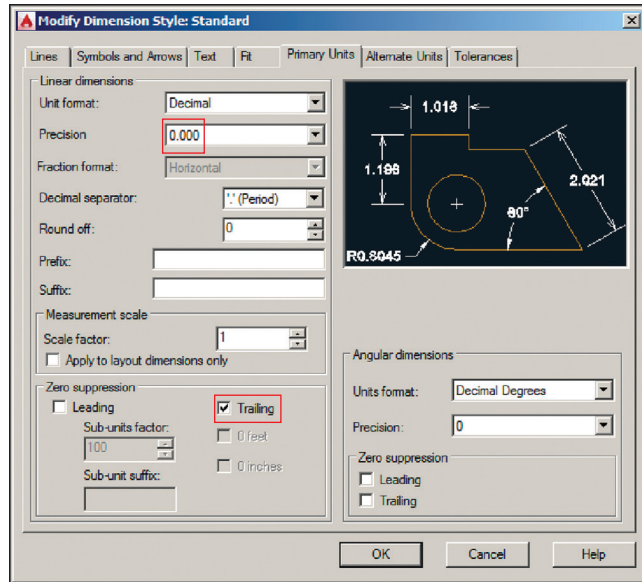

FIGURE 11.4 Configuring dimension style primary units
3. Select the Primary Units tab in the Modify Dimension Style: Standard dialog box (Figure 11.4). Set Precision to 0.000 in the Linear Dimensions section. (If you are in a country that uses a comma instead of a period as a decimal separator, select a comma [,] in the Decimal Separator drop-down menu.) Select Trailing in the Zero Suppression section (see Figure 11.4).